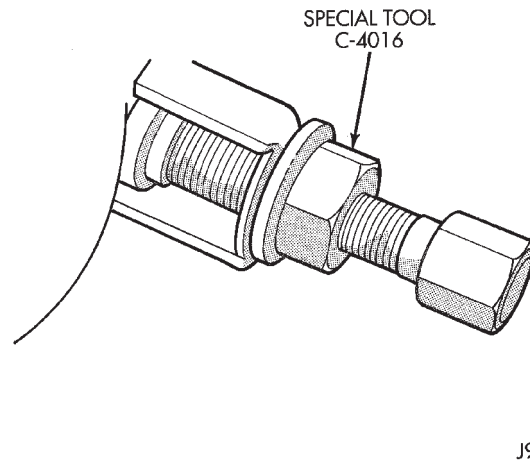

Fig. 10 Pivot Pin Removal
(27) Position the steering column in the center, non-tilt position.
(28) Remove the support pivot pins with Pivot Pin Remover C-4016 (Fig. 10).